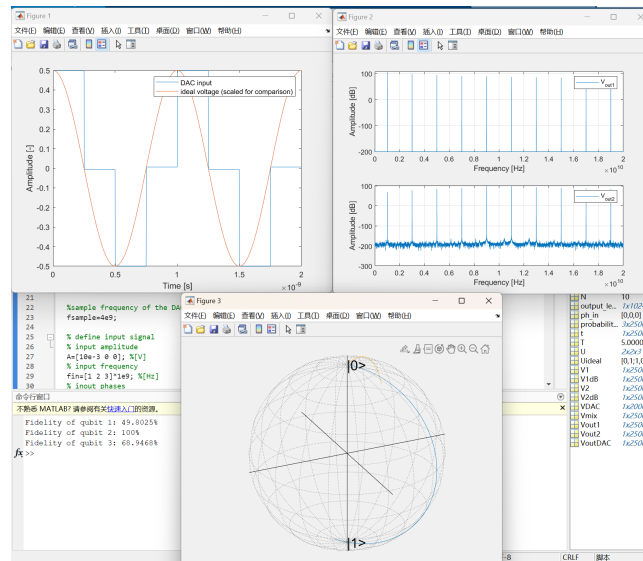

Figure 11: $f_{sample} = 4e9, dt = 2e - 12$
2. $f_{sample} = 4e9, dt = 2e - 12$: Figure 11 shows the result of the simulation. The fidelity of Q1, Q2 and Q3 are 49.8025% , 100% and 68.9468% . The fidelity of Q3 degraded hugely.